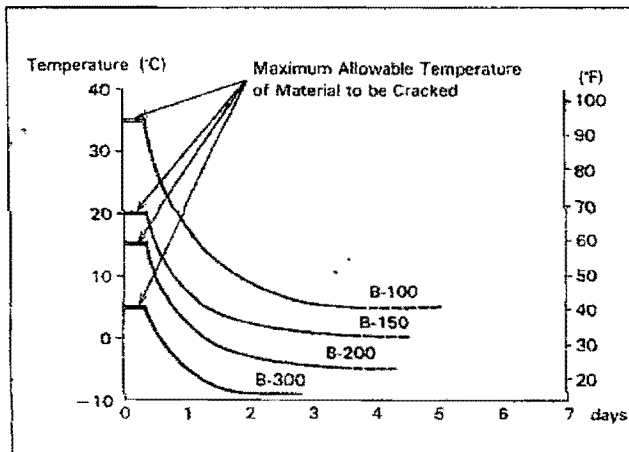

Fig. 1 Time required that expansive stress reaches 3000 t/m² and Temperature
These are currently on the market 3 grades of BRISTAR designed for various temperature ranges (shown in Fig. 1) of material to be cracked. Since a chemical reaction of BRISTAR depends on temperature, use the proper type of BRISTAR listed in Table 1.
- 1) The expansive stress increases more than 6,000 t/m² (Fig. 1, 3, 4)